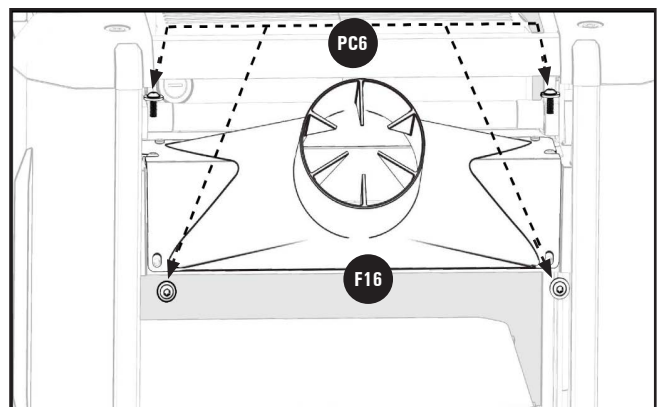

FIGURE 8
4. Align the four slots in the dust collection attachment with holes in the frame (Figure 8). Secure using four M6 x 20mm Torx screws and washers **PC6** (two from step 2).